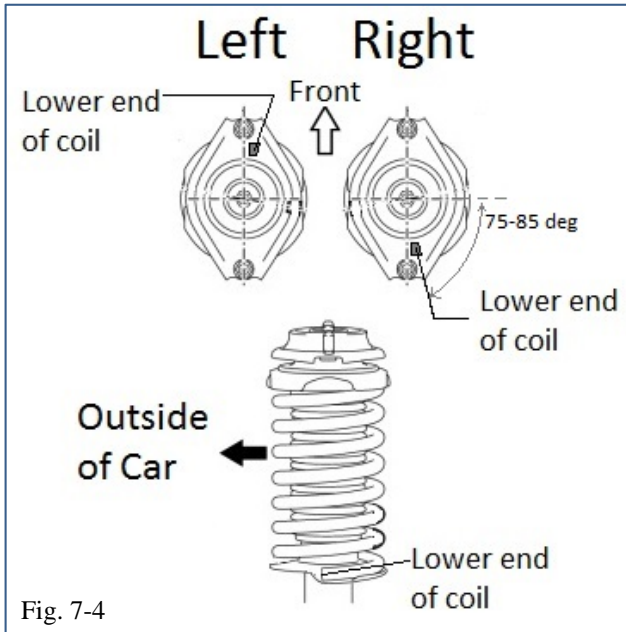

Fig. 7-4
(3) Install the rear support assemblies as shown in Fig. 7-4. Adjust the rear suspension support assembly to the installation position of the shock absorber so that the studs are positioned as shown in the illustration